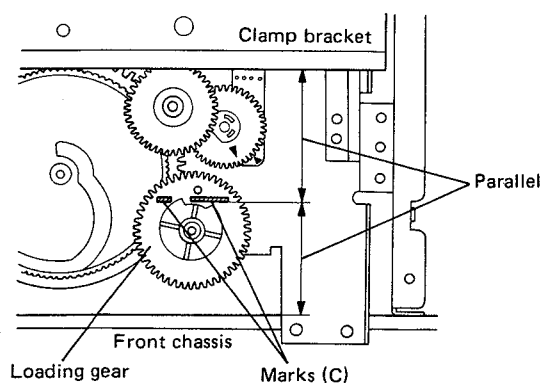

Fig. 12
4. Set the loading gear so that the marks (C) on it are parallel with the front chassis or clamp bracket. (Fig. 12)